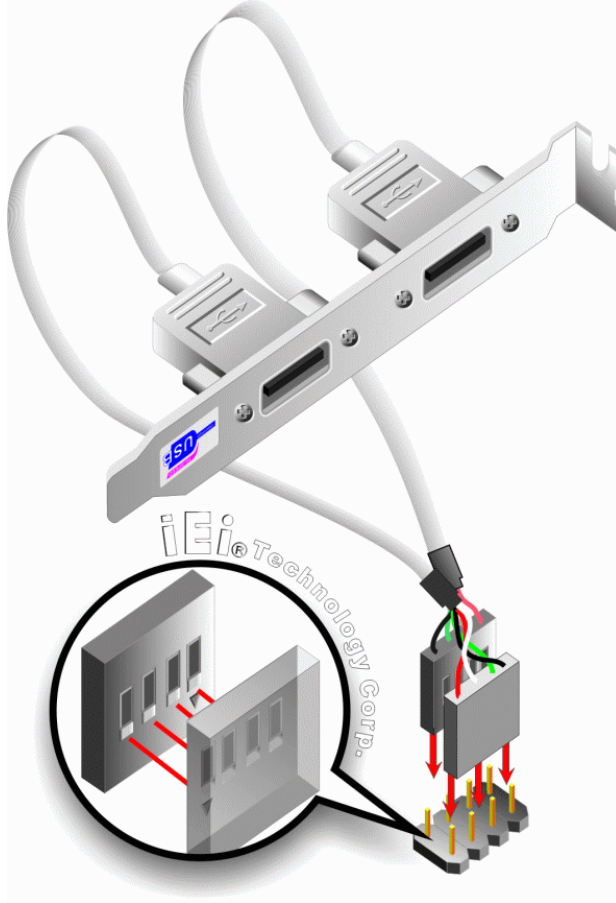

Figure 5-13: Dual USB Cable Connection
Step 3: **Insert the cable connectors.** Once the cable connectors are properly aligned with the USB connectors on the KINO-945GSE, connect the cable connectors to the on-board connectors. See Figure 5-13.